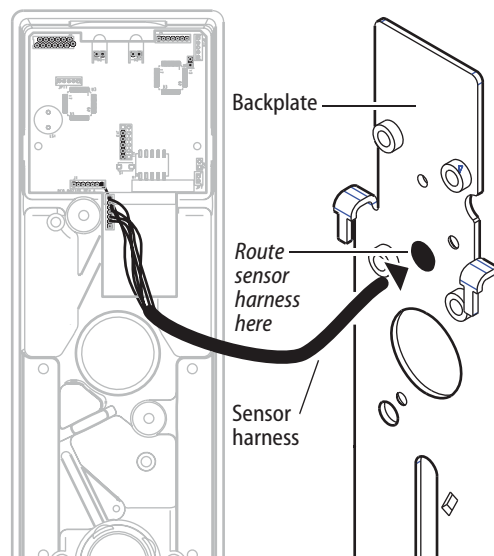

Figure 12 Re-routing the sensor harness for BEST Precision 2100 exit devices
- 4 Re-route the sensor harness out through the alternate wire-routing hole as shown in Figure 12.